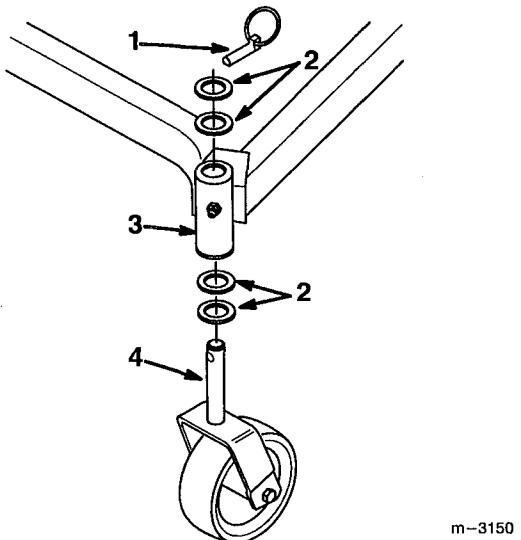

Figure 24
2. Remove the lynch pin and thrust washer(s) from the top of the castor wheel fork (Fig. 24).
6. Inspect the castor wheel fork for wear and replace if necessary (Fig. 24).
7. Slide the castor wheel fork through the bushings in the mounting tube. Replace the thrust washer(s) onto the fork and secure with the lynch pin (Fig 24).